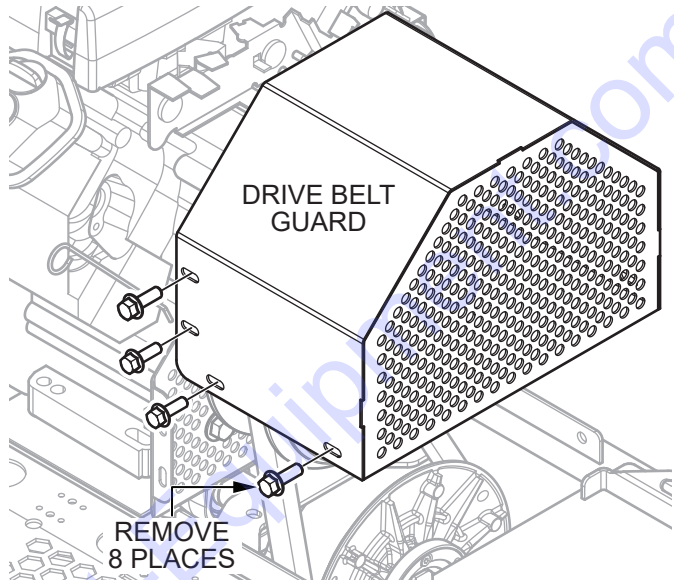

Figure 32. Drive Belt Guard Removal
To gain access to the drive belt, remove the drive belt guard cover (Figure 32), then visually inspect the drive belt for signs of damage or excessive wear. Replace the drive belt if it is worn or damaged.
1. To gain access to the drive belt, remove the drive belt guard (Figure 32).